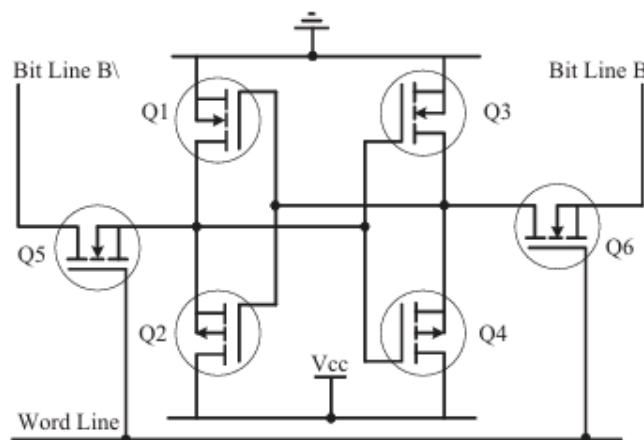

Fig. 2.10 SRAM cell implementation
2.2.2.1 Static RAM (SRAM) Static RAM stores data in the form of voltage. They are made up of flip-flops. Static RAM is the fastest form of RAM available. In typical implementation, an SRAM cell (bit) is realised using six transistors (or 6 MOSFETs). Four of the transistors are used for building the latch (flip-flop) part of the memory cell and two for controlling the access. SRAM is fast in operation due to its resistive networking and switching capabilities. In its simplest representation an SRAM cell can be visualised as shown in Fig. 2.10.